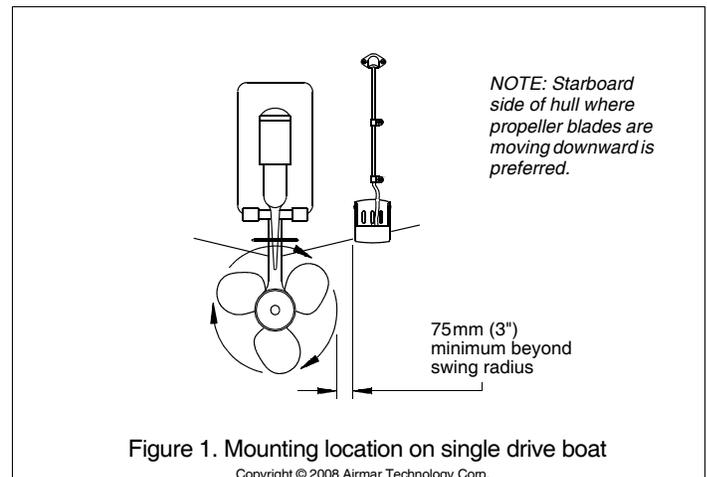

Figure 1. Mounting location on single drive boat
- **Single drive boat**—Mount at least 75 mm (3") beyond the swing radius of the propeller (see Figure 1). The starboard side where the propeller blades are moving downward is preferred.